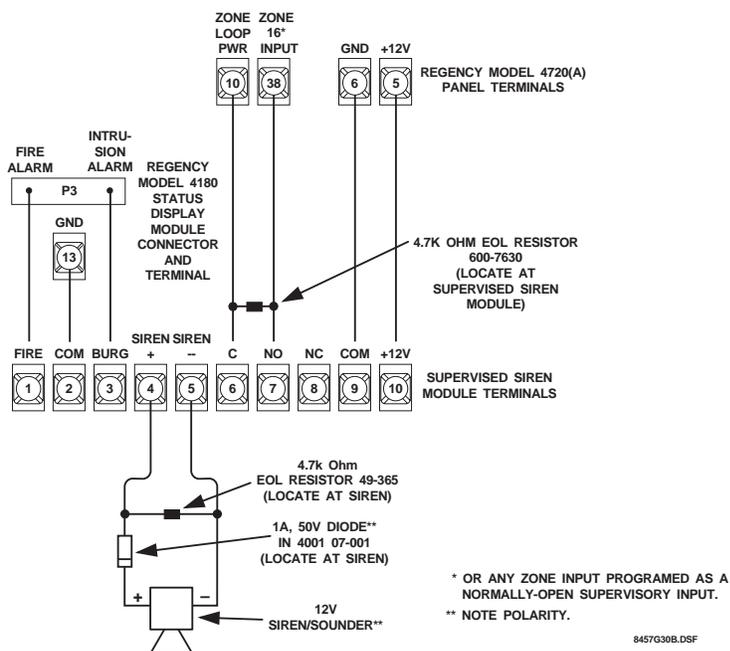

Figure 1: Connecting the Supervised Siren Module to the 4724
5. For UL approved installations, the Regency Supervised Siren Module must be wired to the 4724. To warn of a fire, the module provides a UL temporal-three siren that uses three distinctive, repeating short beeps. The module converts the panel’s non-supervised, steady fire cadence to a supervised, temporal-three fire cadence. This module also provides a distinctive supervised burglary (police) siren. See Figure 1 for details on wiring the module to the 4724. For additional information, see the *Regency Supervised Siren Module Installation Instructions* (P/N 466-1584).